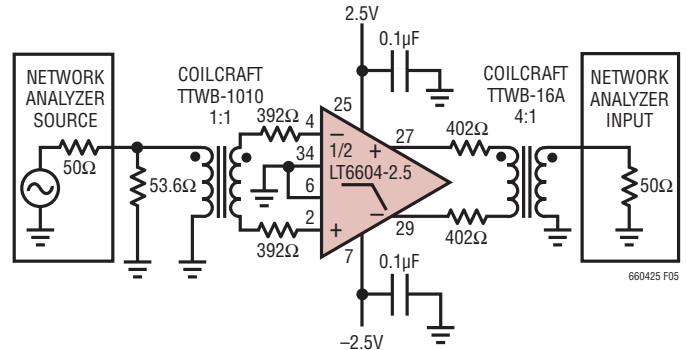

Figure 5
Figure 5 is a laboratory setup that can be used to characterize the LT6604-2.5 using single-ended instruments with 50Ω source impedance and 50Ω input impedance. For a 12dB gain configuration the LT6604-2.5 requires a 402Ω source resistance yet the network analyzer output is calibrated for a 50Ω load resistance. The 1:1 transformer,
53.6Ω and 392Ω resistors satisfy the two constraints above. The transformer converts the single-ended source into a differential stimulus. Similarly, the output of the LT6604-2.5 will have lower distortion with larger load resistance yet the analyzer input is typically 50Ω . The 4:1 turns (16:1 impedance) transformer and the two 402Ω resistors of Figure 5, present the output of the LT6604-2.5 with a 1600Ω differential load, or the equivalent of 800Ω to ground at each output. The impedance seen by the network analyzer input is still 50Ω , reducing reflections in the cabling between the transformer and analyzer input.